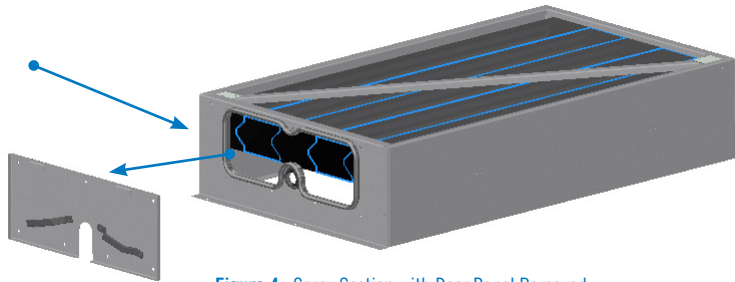
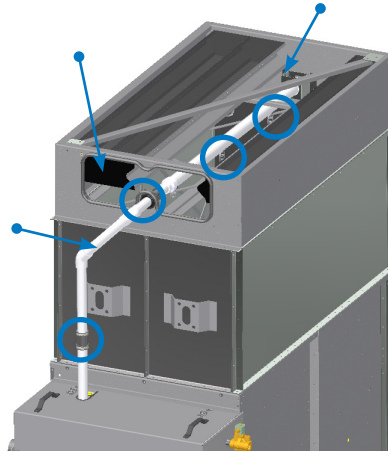

Figure 4 . Spray Section with Door Panel Removed
Figure 7. Spray Pipe Install, Upper Pipe and Eliminator Install
3. Align sections using drift pins and secure the two sections together using the factory-supplied fasteners. Note the fastener type varies on the location and the unit's material of construction. See **Figure 7** and **Table 3** on page 10 for more details. Repeat as necessary for all modules of the unit.
1. **For Figure 1c Only:** Remove the access panel from the spray section, saving the hardware. Then carefully remove the eliminators through the opening. Note each eliminator's orientation and location. The eliminators will be replaced after installing the spray piping. See Figures 4 and 7 on page 10.
3. **For Figures 1c and 1d:** If it is still in place, remove the access panel from the spray section, saving the hardware. Install the water distribution system pipe between the two rubber couplings (see **Figure 7**). Slide the pipe into the bracket and ensure the nozzles are pointing downward. Place and install two rubber couplings at the top and bottom of the spray pipe. If they were removed, replace the eliminators into the spray section, noting the original location and orientation. Replace the access panel (see **Figure 4**). Repeat as necessary for all modules of the unit.